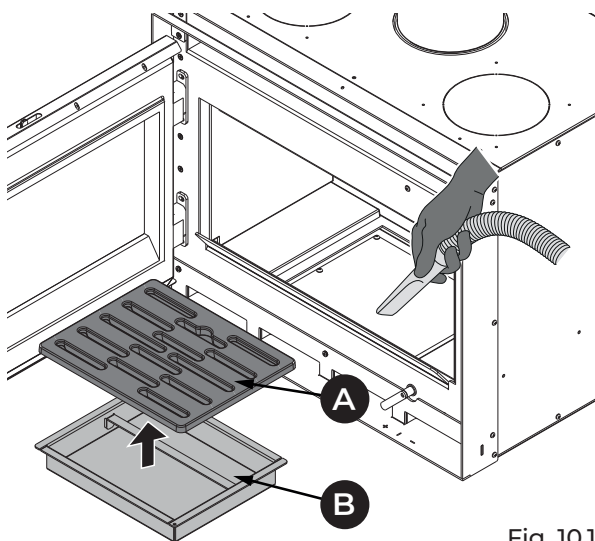

Fig. 10.1
1	Carefully clean the grate (A) (Fig. 10.1). Remove it and clean the fire box using a hand brush (not supplied) brushing the combustion residues into the ash drawer.